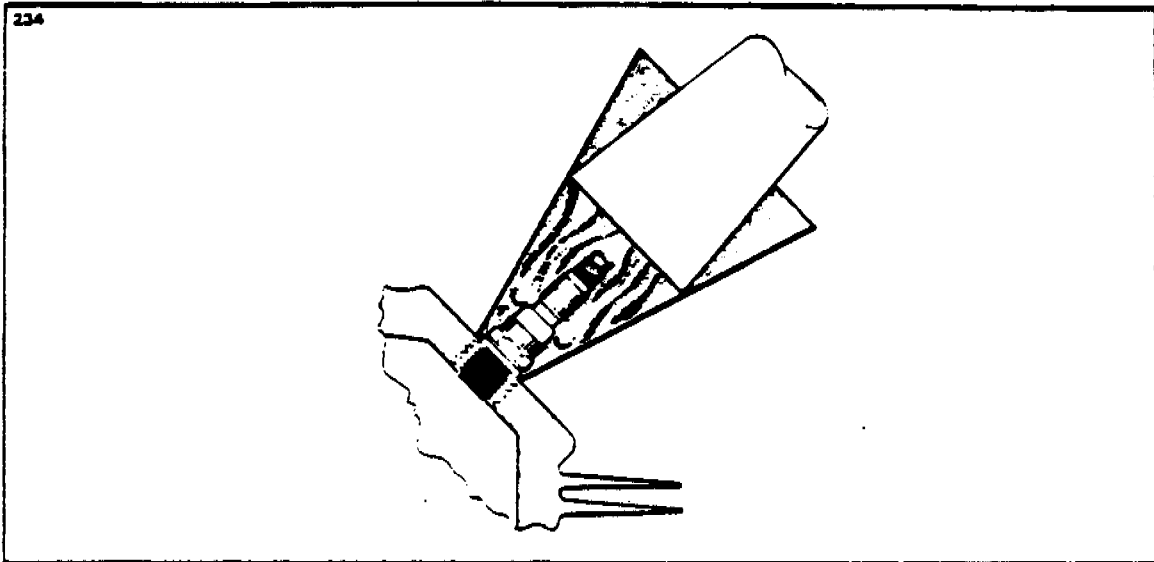

FIGURE 7A-23. REMOVING SEIZED SPARK PLUGS
- d. Removal of seized spark plugs in the cylinder may be accomplished by application of liquid carbon dioxide by a Conical metal funnel adapter with a hole at the apex just large enough to accommodate the funnel of a CO2 bottle. (Refer to Figure 7A-23.) When a seized spark plug cannot be removed by normal means, the funnel adapter is placed over and around the spark plug. Place the funnel of the CO2 bottle inside the funnel adapter and release the carbon dioxide to chill and contract the spark plug. Break the spark plug loose with a wrench. A warm cylinder head at the time the carbon dioxide is applied will aid in the removal of an excessively seized plug.